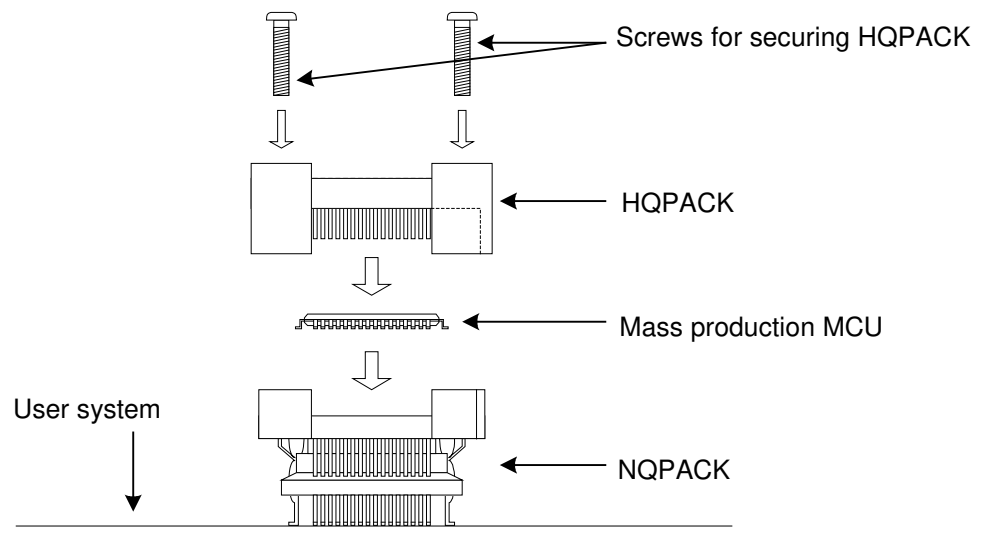

Figure 5 Mounting a mass production MCU
To mount a mass production MCU on the user system, use the supplied HQPACK (See Figure 5).
3. Insert each screw for securing HQPACK in each of the four drilled holes on the HQPACK (See Figure 5).